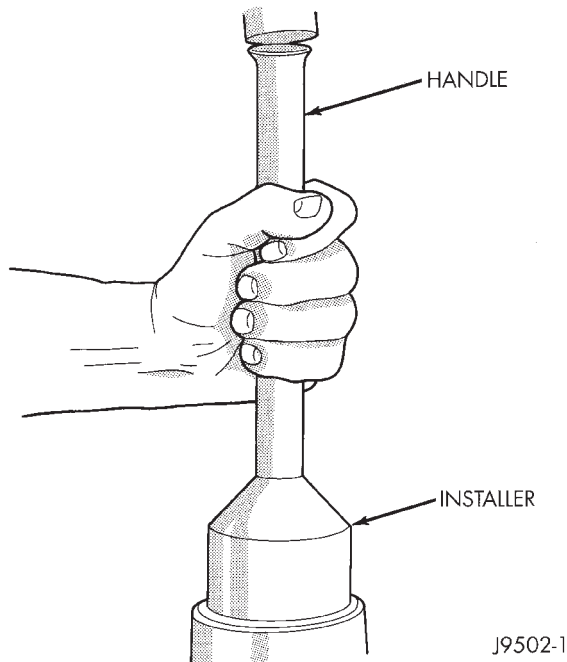

Fig. 33 Pinion Seal Installation
(3) Install pinion front bearing, oil slinger. Apply a light coating of gear lubricant on the lip of pinion seal. Install seal with Installer D-163 and Handle C-4171 (Fig. 33).